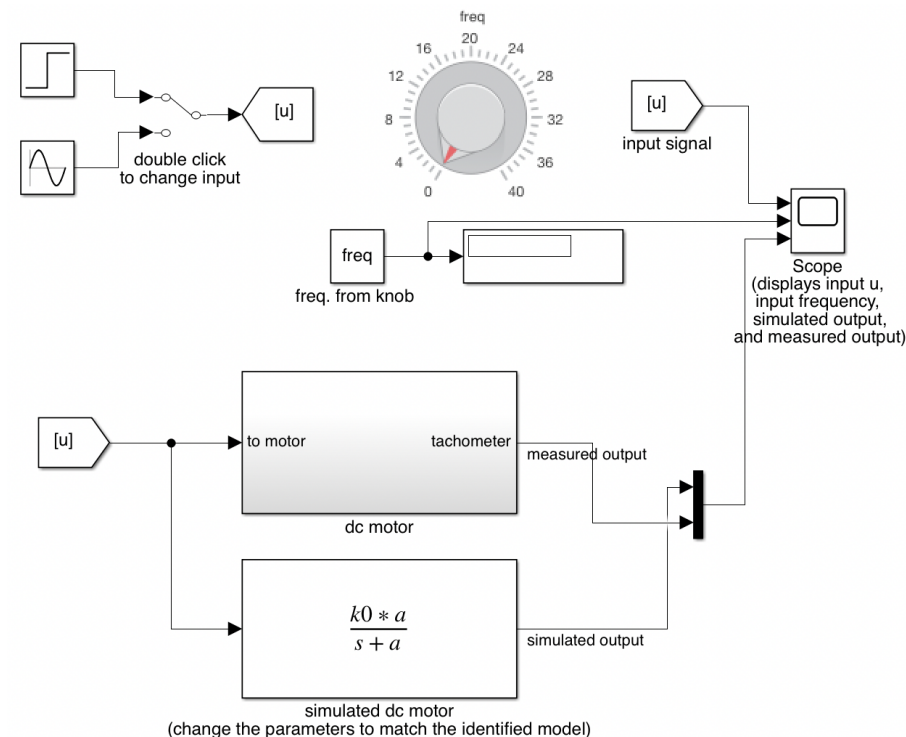

Figure 2: Simulink model for system identification
- Open the corresponding simulink model for system identification, **dc_motor_sys_id_PCI16E4.slx** or **dc_motor_sys_id_MI016E4.slx** (see Fig. 2). Check the contents of the model. The model interfaces with the motor by sending input voltage commands and receiving angular velocity measurements from the tachometer.
- 3.3. (L) Observe and register the time response of the system to a step of amplitude $1V$. From the time response, obtain estimates for the values of the parameters k_0 e a of the transfer function $G(s)$. Describe and justify the method adopted to obtain these estimates.